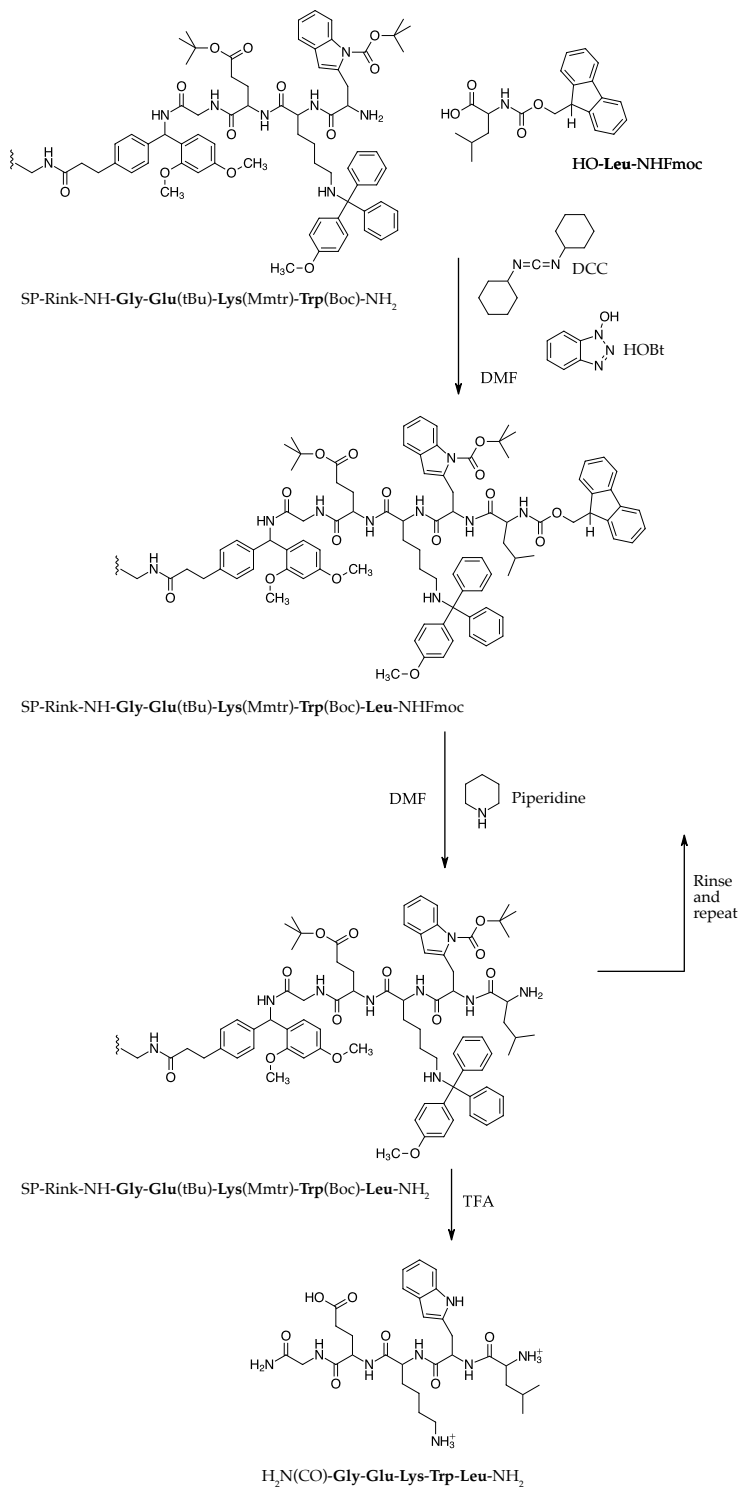

Figure 3: An example of solid-phase synthesis of peptides in action.
7. Consider the methods of solid-phase peptide synthesis as presented in Figure 3 on the following page.